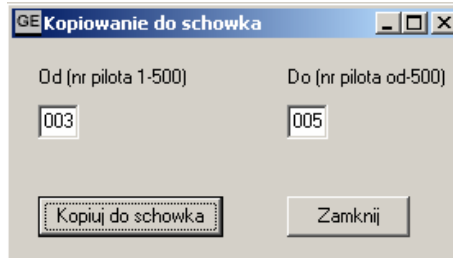

fig. 35
**Point 6.** After clicking on the Copy to clipboard button, you will see a window shown on the fig.35. Thanks to this tool you can easily copy the whole group of remote controls into other place in memory. Enter the required range of remote controls and press the Copy to clipboard button and then Close.